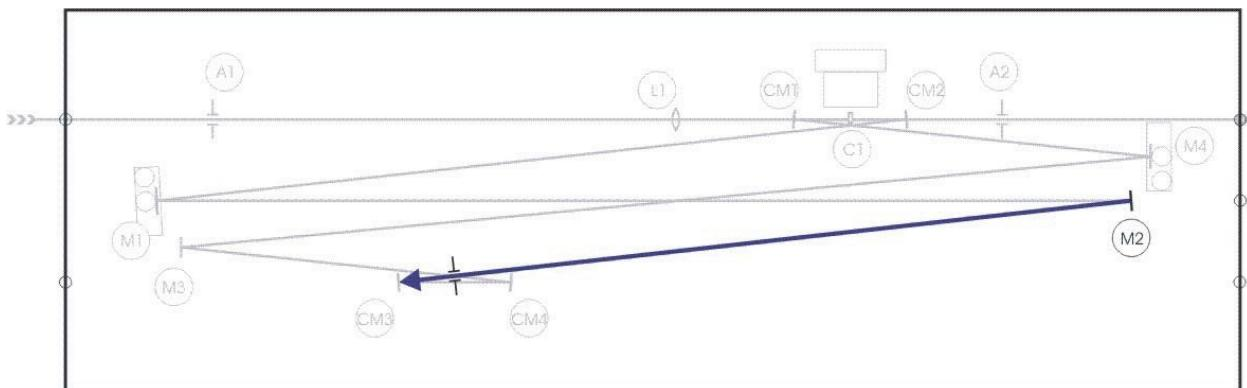

Figure 5.12.: Align M2 to center green pump spot on CM3. Use flip aperture **A6**.
- Flip in aperture **A6** in front of CM3. Adjust M2 to center the spot on CM3 (Fig. 5.12).